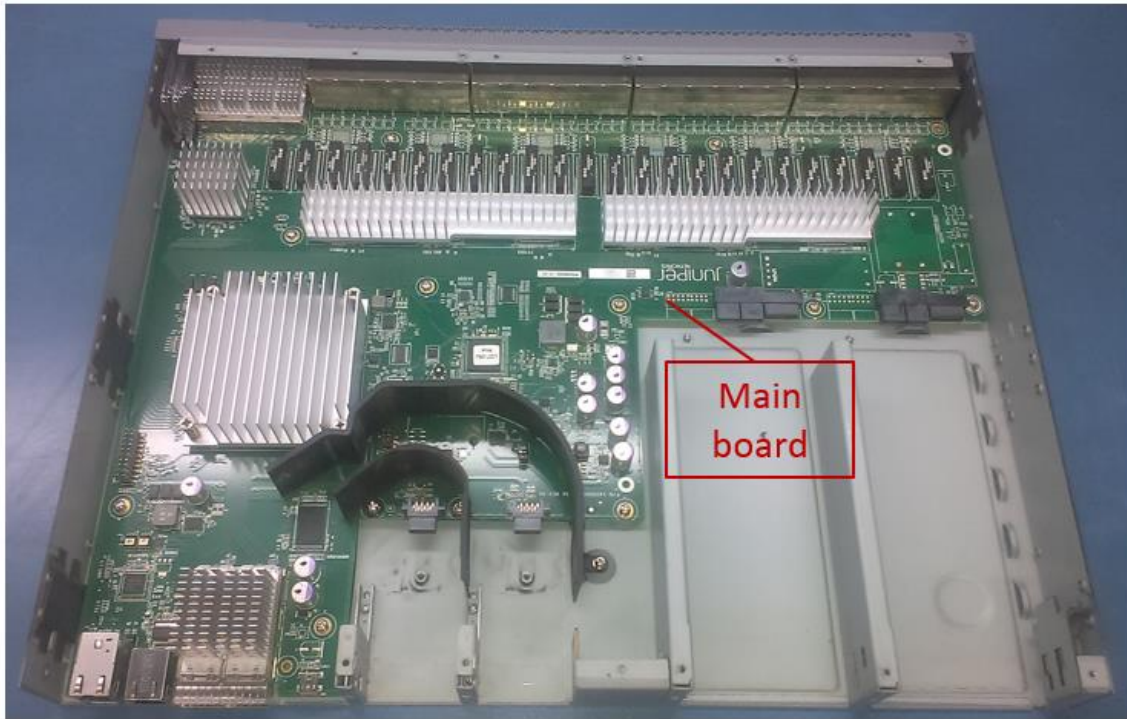

Figure 3-5: Open Chassis
| Figure 3-5: | Open Chassis..... | 5 |
6. Remove the top of the chassis for Main board access (Figure 3-5)